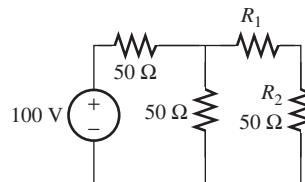

FIGURE P3.73 Circuit for Problem 3.73.
- 3.73 (B)** Find the resistance R_1 in Figure P3.73 to transfer maximum power to R_2 .